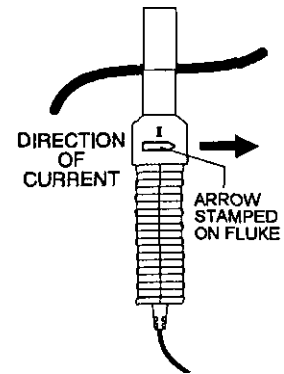

Figure 15
15. **The next two (2) measurements** must be done while the UPS is running on **inverter**. Remove AC input power and let the **unit** run for approximately one (1) minute before you go on.
17. To measure DC current, you must use a Fluke **80i-410** DC/AC Current Probe or equivalent. If you do not have this probe or its equivalent, call Best Power Worldwide Service at 1-800-356-5737. Set the meter for DC **mV**, attach the Fluke 80i-4 **10** current probe, and clamp the probe on the positive (+) **battery** cable. Then, read the measurement. DC current should equal one (1) amp per DC **mV** measured.
18. Display **parameter 6 (I Batt)** by typing **d 6** and pressing **<ENTER>**. Using the **clamp-** on AC/DC probe, set the digital **multimeter** for DC **mV**. Measure at the positive (+) battery cable **with the** probe. **The arrows stamped on the current probe must match the flow of current you are measuring.** (See Figure 15.) If the result is different from the value displayed for parameter 6, change the value of parameter 6 by typing **pr** at the "Service=>" prompt, entering your measured **value** at the "=>" prompt, and pressing **<ENTER>**.